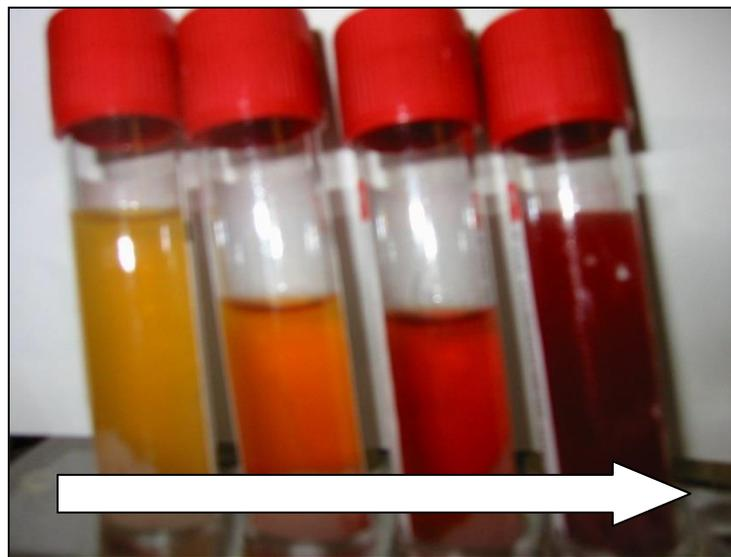

Figure 5 (Hemolysis)
- Refer to Figure 5 (Hemolysis).